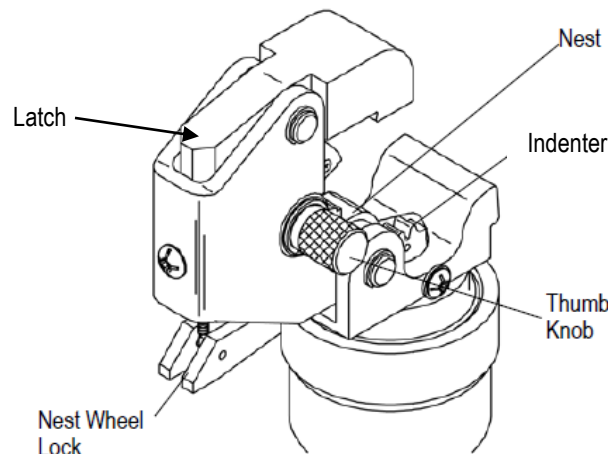

Figure 2
## 4. NEST SELECTION (FIGURE 2)
1. Depress the latch and open the crimping head as shown in Figure 2.